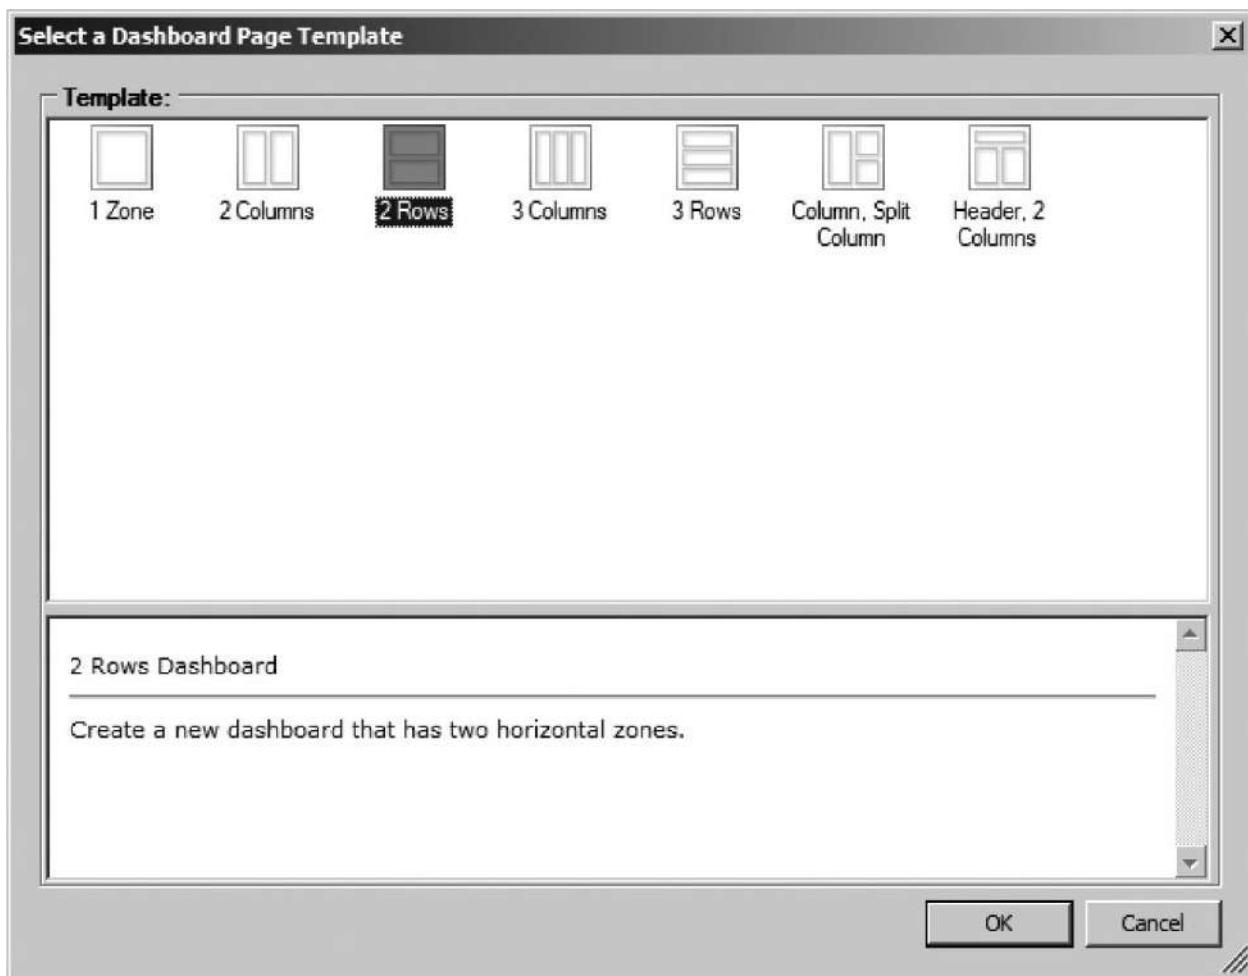

**Figure 17-60** Analytic chart of products accepted by product type by year
18. Click OK. We have a bar chart showing the number of products accepted by product type by year, as shown in Figure 17-60.